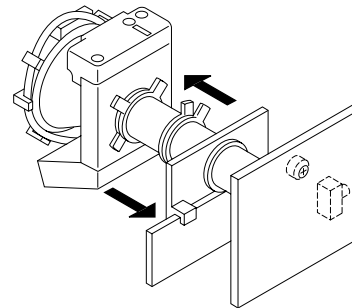

Fig. 6-2
5. Move the deflection yoke forward and adjust so that the entire screen is green. (See Figure 6-2.)